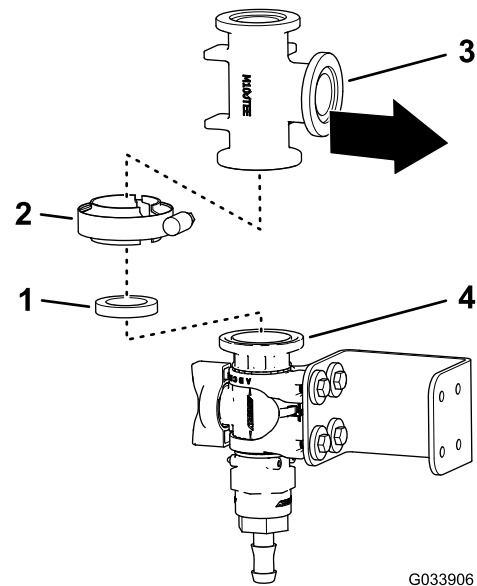
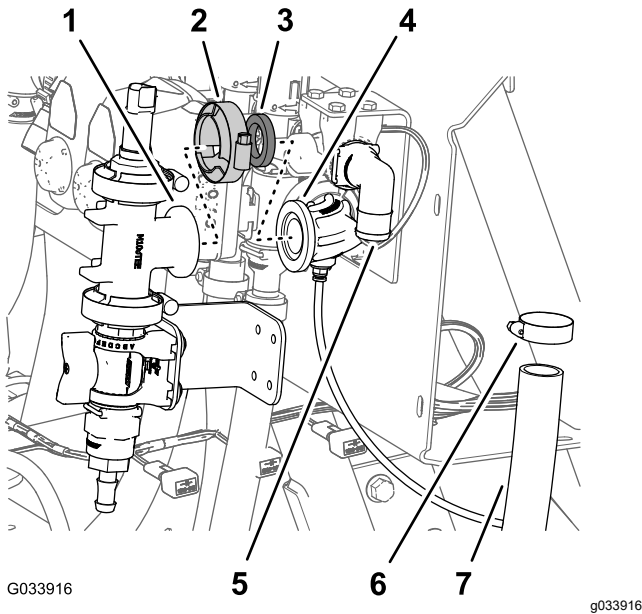
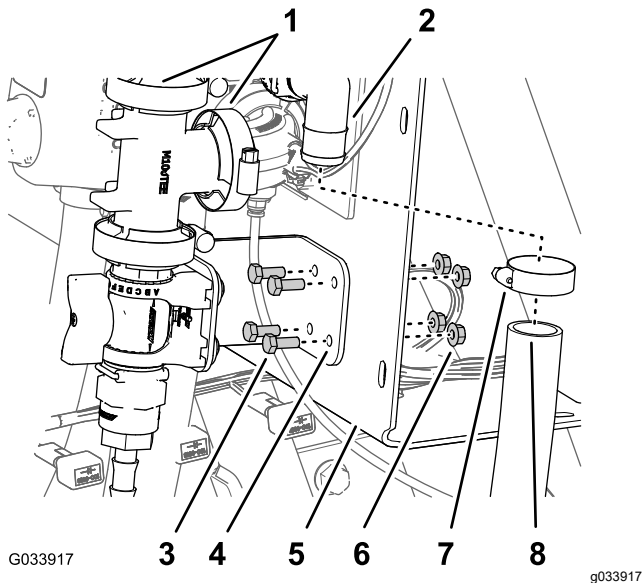

Figure 13
Figure 15
Figure 18
4. Align the flange of the T-fitting to the flange of the control valve as shown in Figure 13.
5. Loosely attach the T-fitting to the control valve with a gasket and flange clamp (Figure 13).
1. Align the flange of the T-fitting with the flange of the 90° fitting with a connector for the sense tube (Figure 15).
2. Loosely assemble the T-fitting and the 90° fitting with a gasket and a flange clamp (Figure 15)
4. Remove the clamp, gasket, T-fitting with the flange from the 90° fitting with a connector for the sense tube (Figure 15).
1. Align the flange of the T-fitting with the flange of the 90° fitting with a connector for the sense tube (Figure 18).
2. Loosely assemble the T-fitting and the 90° fitting with a gasket and a flange clamp (Figure 18).
4. Tighten by hand the flange clamp that secures the control valve and the T-fitting (Figure 13) and the flange clamp that secures T-fitting to the 90° fitting with a connector for the sense tube (Figure 15 and Figure 18).